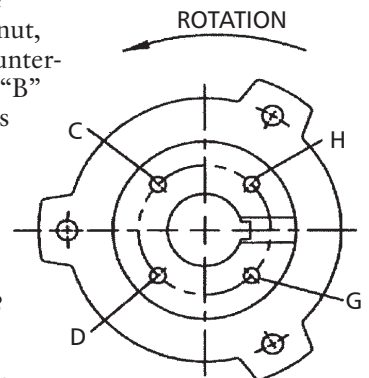

Figure 13
**NOTE:** Shaft adjustment up or down is accomplished by turning the adjusting nut (604) Figure 13.
**NOTE:** There are five holes in the adjusting nut and only four in the motor coupling. See Figure 13.
1. With shafting all the way down and the impellers resting on their seats, turn the adjusting nut (604) in counter-clockwise direction, thus lifting the shaft, until the impellers just clear their seats and the shaft/motor turns free by hand. This removes all deflection from the shaft.
2. Align hole "A" in the adjusting nut (604) and hole "C" in the driver coupling (See Figure 13) or whatever similar holes are in like position. If care is exercised, this will give an initial impeller clearance of 0.001" to 0.003" depending on shaft size or the pitch of the thread.